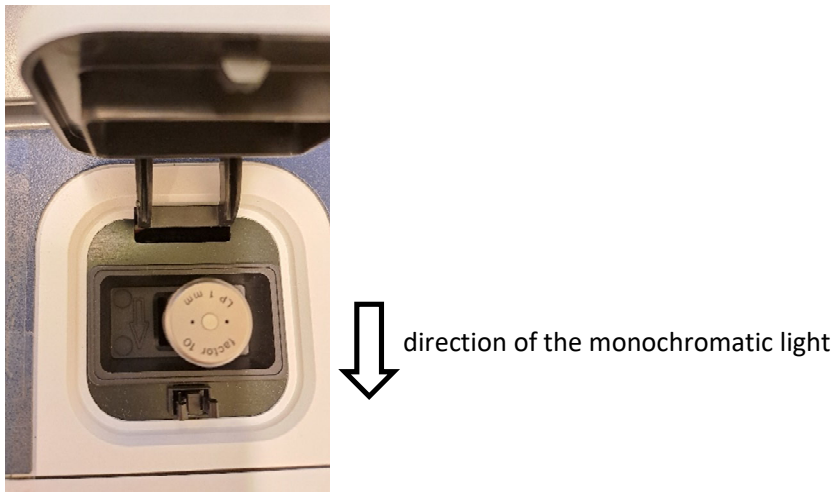

Figure 3: Orientation of the cuvette window according to the direction of the monochromatic light (see arrow)
- place cuvette in the cuvette cavity (figure 3)